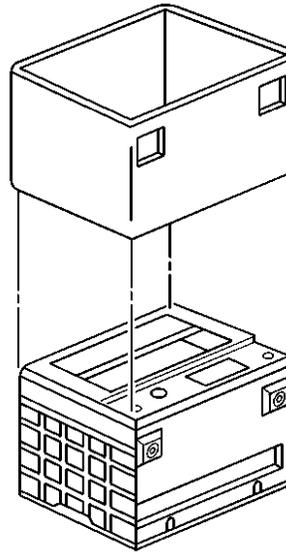

Fig. 4 Battery insulator removal
9. Remove battery insulator from battery, **Fig. 4**.
1. Install battery insulator to battery, **Fig. 4**.